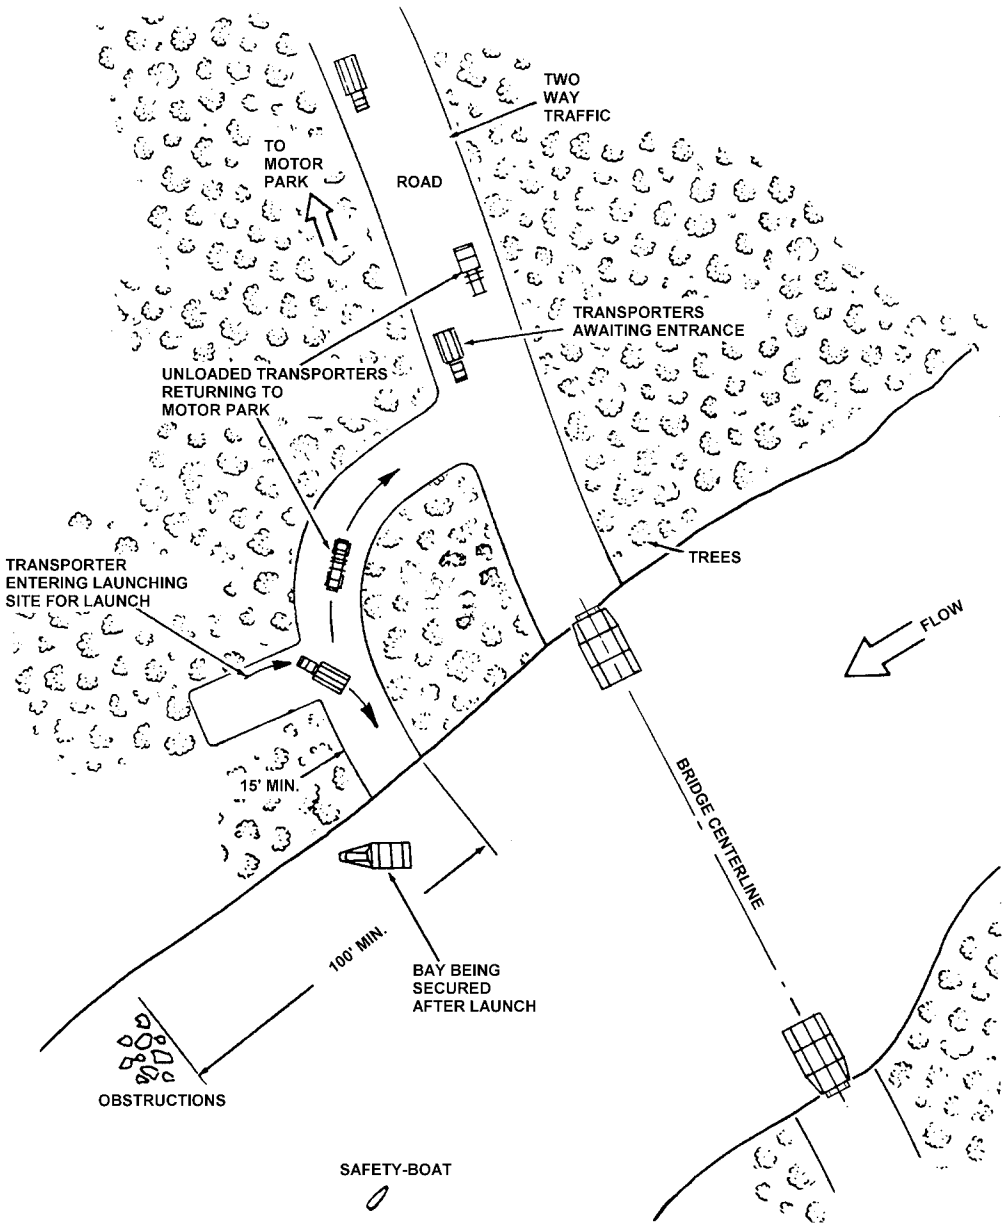

Figure 1. Bridge Assembly Site Layout for Single Launch Site (Successive Bay Assembly).
- 4. Site Layout Requirements** — Bridge and raft assembly sites require two way access roads to areas for parking, preparation of equipment, and routing of personnel and vehicle traffic. The type of bridge assembly method used will determine the location of launch and bridging sites and the location of access roads to them. Single or multi-launch sites are established depending on how quickly the advancing forces are directed to make a river crossing. When establishing a site layout, the following requirements must be met. (Refer to figures 1 through 4 for example layouts, and table 3 for bridge assembly requirements in this WP.)